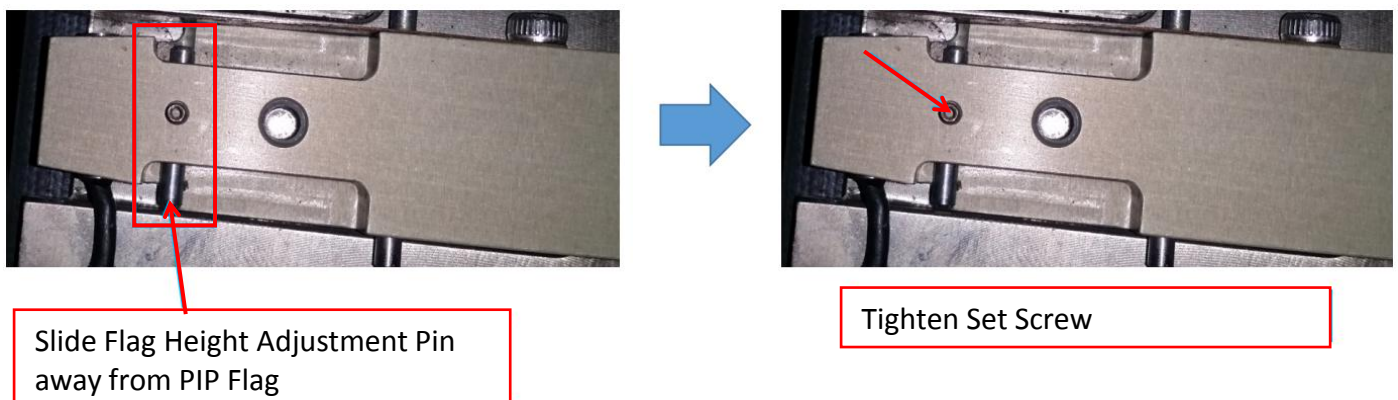

Figure 13 Flag Height Adjustment Pin
9. Gently slide dowel pin away from PIP flag & tighten Set Screw as shown in Figure 13.